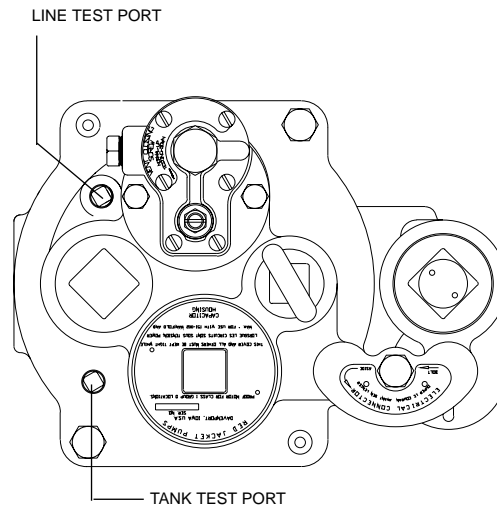

Figure 3.2 Line test port
- 3: Apply line test pressure at line test port. (50 psi (345 kPa) maximum). (See Fig 3.2)
- 1: Close pump check valve by turning the vent closing screw as far down as possible. Apply tank test pressure at tank test port. (See fig. 3.2)